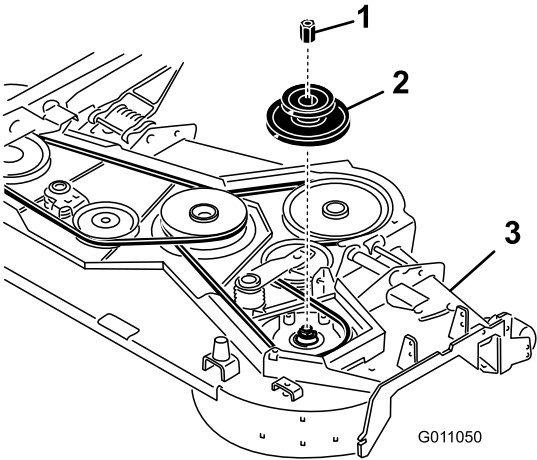

Figure 3
- 4. Place a block under the right blade spindle under the mower deck before removing the right mower deck pulley (Figure 3). This will prevent the spindle components dropping down when the pulley nut is removed.
- 5. Remove the existing pulley nut and remove the pulley (Figure 3). Save the pulley and nut for later use.
- 6. Install the new double pulley onto the spindle and secure it with the new pulley nut (Figure 3). Torque the nut to 130-150 ft-lb (176-203 N-m).